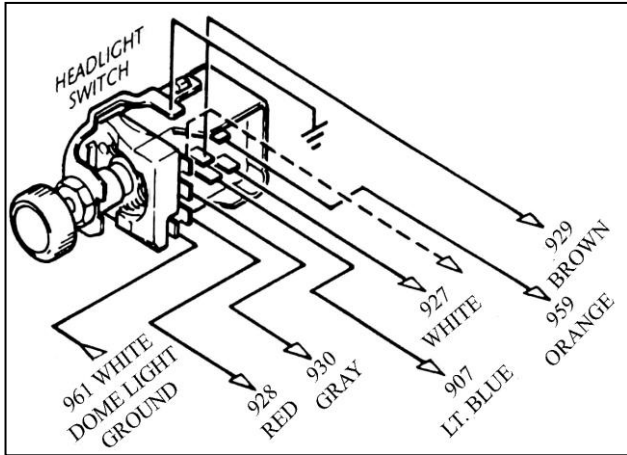
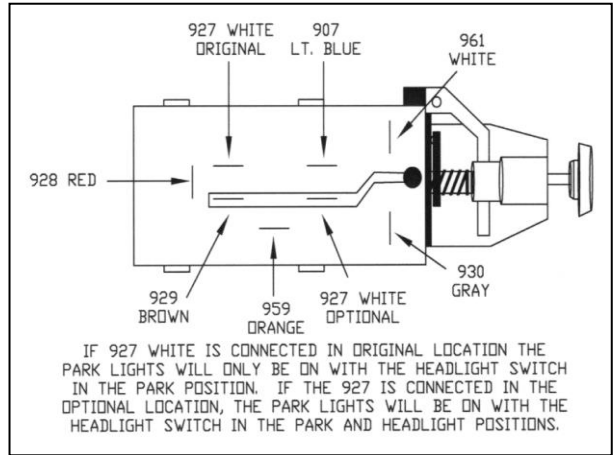

Figure 7.18A '64-'66 Headlight Switch
Figure 7.18B '63 Headlight Switch
- 7.14.10 Headlight Switch Connections-** The harness is preterminated and the correct plug is preinstalled for a '64-'66 Chevrolet Pickup Headlight Switch. See **Figure 7.18A** for connector pinout. If you are using a 1963 headlight switch you will need to cut off the headlight switch connector and crimp a female spade connector onto each wire. These spade connectors are included in the parts kit. Refer to **Figure 7.18B** for the correct pinout of this headlight switch